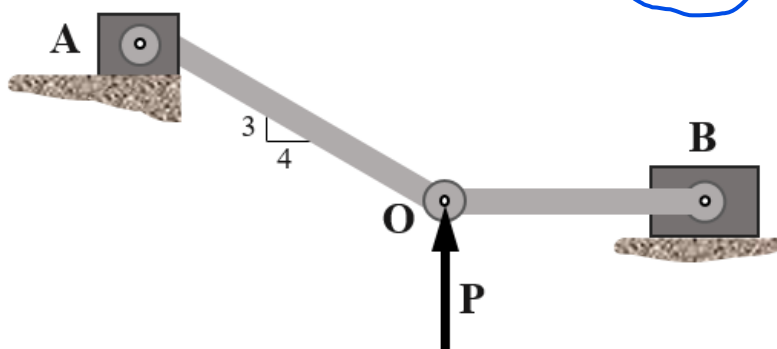

Figure 6
6. Blocks A and B shown in figure 6 have a mass of 5 kg and 10 kg respectively, and are connected to the weightless links. Determine the largest vertical force P (upward) that can be applied at the pin O without causing any movement. The coefficient of static friction between the blocks and the contacting surfaces is  $\mu_s = 0.3$ . ( $g=10\text{m/s}^2$ ) (20')